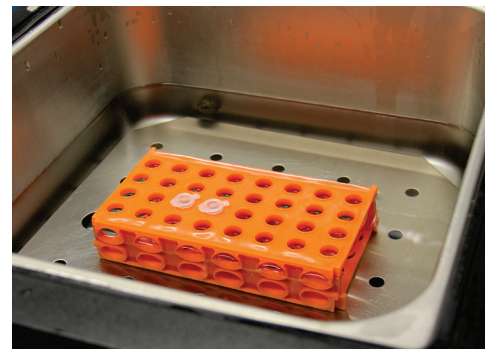

Fig. 18
19. As quickly as possible, transfer all the tubes from the ice bath to the 42°C water bath (Fig. 18) for a “heat shock” of exactly 90 seconds*.